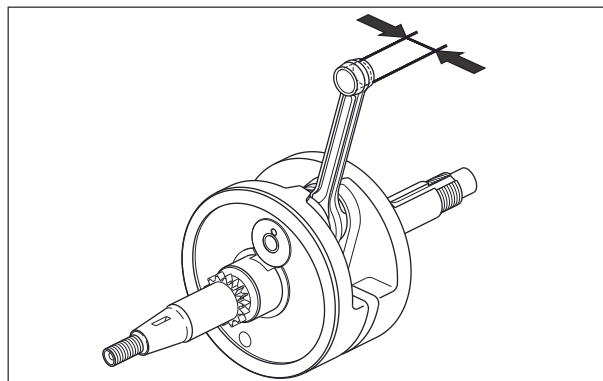

Fig. 3.174
- Measure internal diameter (ID) of the connecting rod small end. If ID is more than the service limit, replace the crankshaft assembly with a new one. (Fig. 3.174)